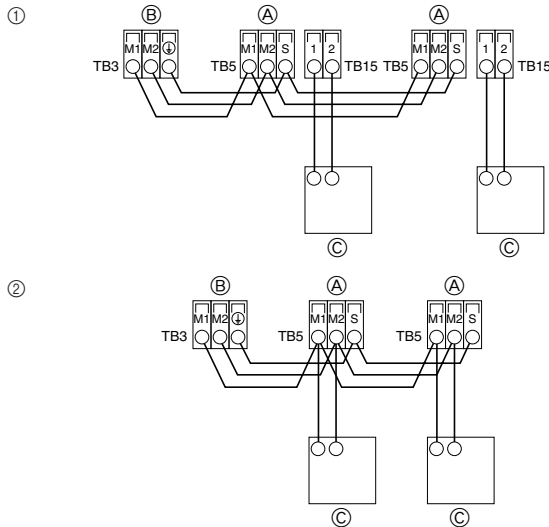

Fig. 4-2
4.2. Connecting remote controller, indoor and outdoor transmission cables (Fig. 4-2)